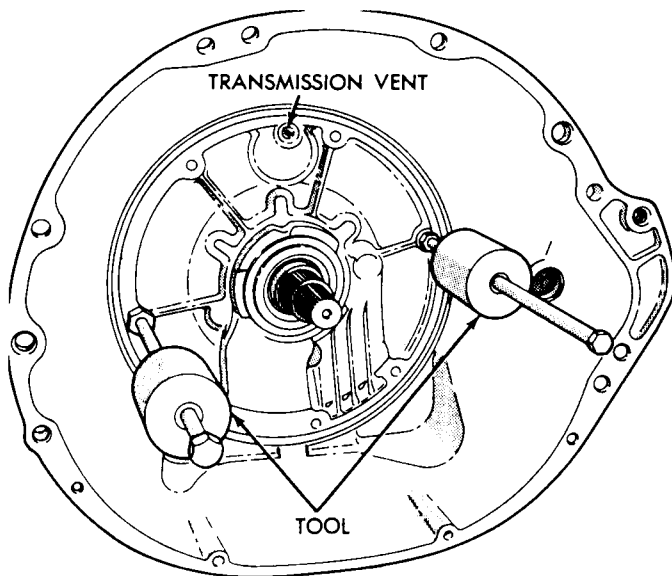

Fig. 6—Remove Oil Pump
- (1) Tighten front band adjusting screw until band is tight on front clutch retainer. This prevents clutch retainer from coming out with pump which might cause unnecessary damage to the clutches.
- (2) Remove oil pump housing retaining bolts.
- (3) Attach Tool C-3752 to pump housing flange, (Fig. 6), in threaded holes in the flange.
- (4) Bump outward evenly with the two "knocker weights" to withdraw pump and reaction shaft support assembly from the case.